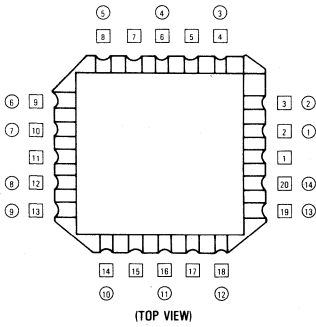

Figure 1: 14-Lead Pin-out for 20 Terminal Chip Carrier
- A. Twenty (20) Lead:
1. Devices requiring 14 connections in a 20 pad chip carrier, see Figure 1.